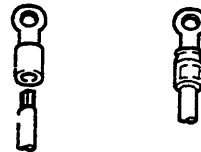

Figure 1-12. "Crimp on" Lugs
**Warning:** To prevent an electric shock, ensure that the main power supply is turned OFF and connect the ground terminal using a class 3 resistance of 100  $\Omega$  or less. For power and ground wiring termination, use "crimp on" lugs (for 4-mm screws) with insulation sleeves (see Figure 1-12). To prevent fire, use 600 V PVC insulated wire (AWG18) for power and ground wiring; cross-sectional area of 0.83 mm2 or thicker; anti-galvanic corrosion finish; insulation thickness should be more than 0.8 mm; insulation resistance should be more than 50 M $\Omega$ Km at 20°C, approved EN60 320 (VDE0625). Do not remove the transparent cover.
It is recommended that "crimp on" lugs (for 4-mm screws) with insulation sleeves be used for leadwire ends. (See Figure 1-12.)